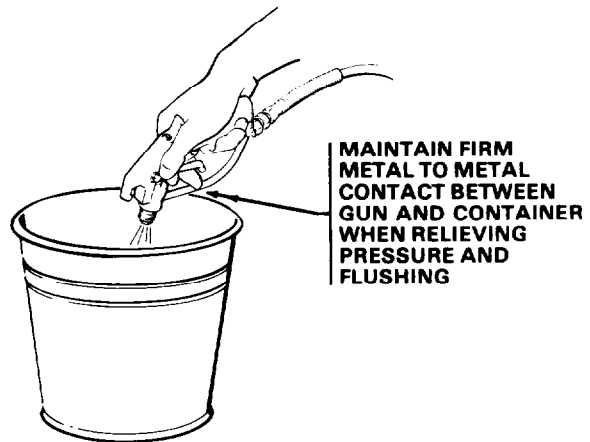

Fig 6
5. Point the spray gun into a metal waste container and with a metal part of the gun firmly touching the metal container, squeeze the gun trigger. See Fig 6. **This procedure helps reduce the risk of static sparking and splashing.** With the gun triggered, turn the ON/OFF switch to ON and slowly turn the pressure adjusting knob clockwise **just until** the sprayer starts. Keep the gun triggered until clean solvent comes from the nozzle. Release the trigger and engage the gun safety latch.